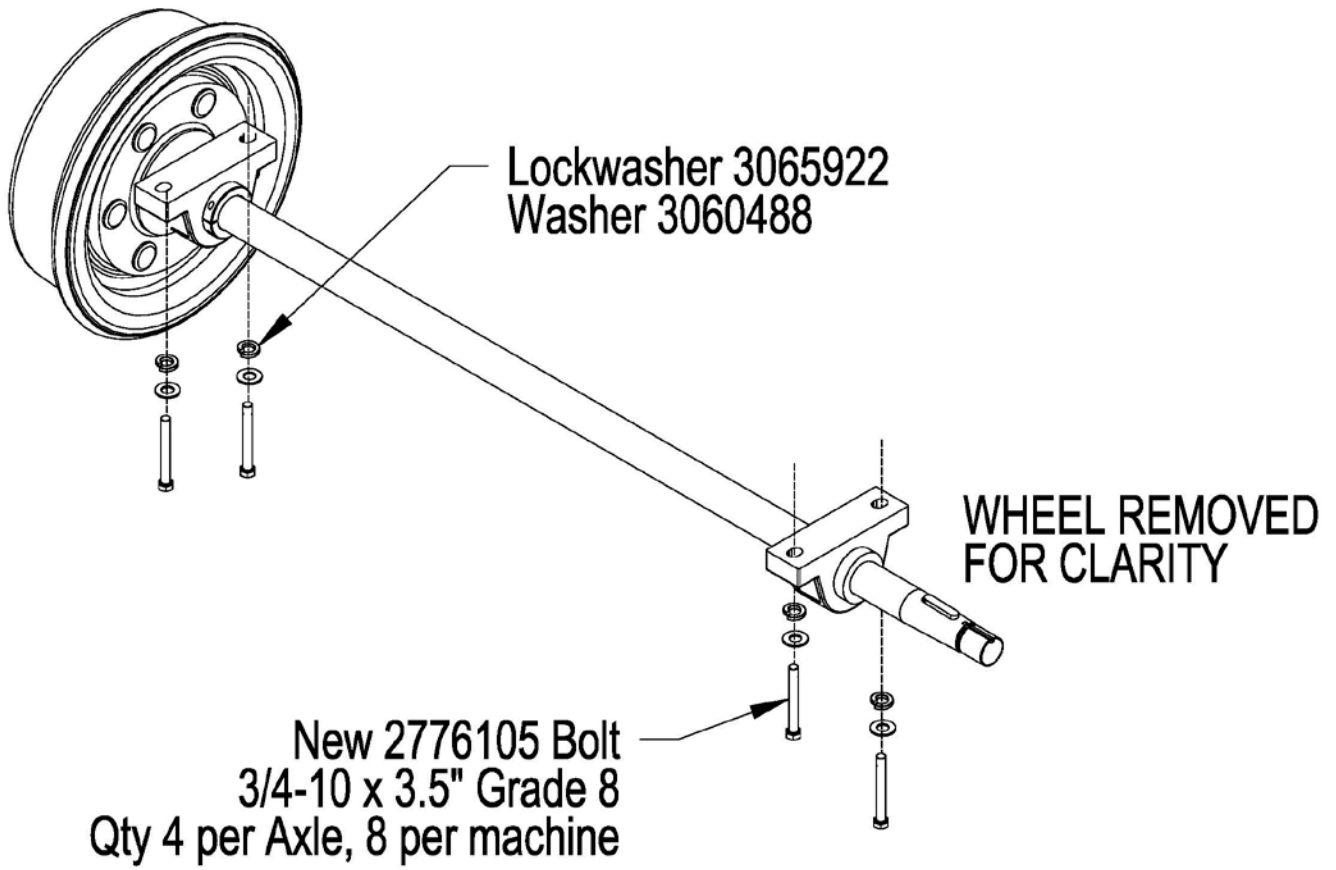

FIGURE 1
**ACTION:** Remove the existing 3/4"-10 x 4" Grade 5 axle bearing mounting bolts one at a time and replace them with 3/4"-10 X 3.5" Grade 8 bolts P/N 2776105 and torque them to approximately 380ft. lbs. There are two bolts per bearing and a total of eight bolts per machine, allow approximately one hour per machine for change out. See Figure 1.